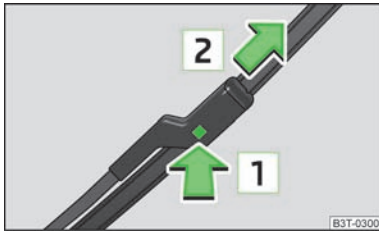

Fig. 50
- › Press the locking button **1** » Fig. 50 to unlock the wiper blade and pull off in the direction of the arrow **2**.